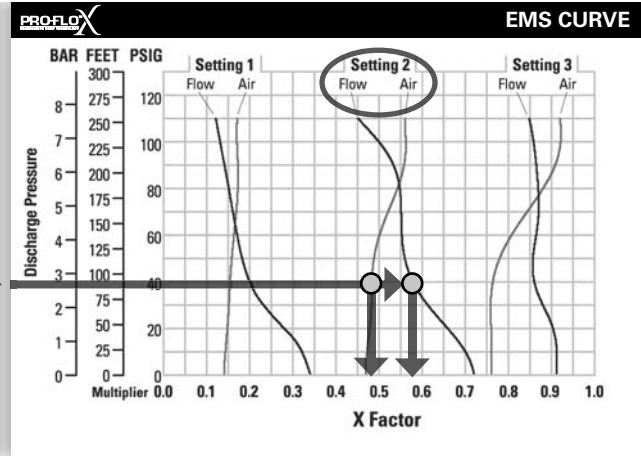

Figure 2
FIGURE 2 When the pressurized diaphragm, diaphragm A, reaches the limit of its discharge stroke, the air valve redirects pressurized air to the back side of diaphragm B. The pressurized air forces diaphragm B away from the center while pulling diaphragm A to the center. Diaphragm B is now on its suction stroke. Diaphragm B forces the inlet valve ball onto its seat due to the hydraulic forces developed in the liquid chamber and manifold of the pump. These same hydraulic forces lift the discharge valve ball off its seat, while the opposite discharge valve ball is forced onto its seat, forcing fluid to flow through the pump discharge. The movement of diaphragm A toward the center of the pump creates a vacuum within liquid chamber A. Atmospheric pressure forces fluid into the inlet manifold of the pump. The inlet valve ball is forced off its seat allowing the fluid being pumped to fill the liquid chamber.
Step 2: Determining flow and air X Factors. Locate your discharge pressure (40 psig) on the vertical axis of the EMS curve (Figure 2). Follow along the 2.8 bar (40 psig) horizontal line until intersecting both flow and air curves for your desired EMS setting (in this case, setting 2). Mark the points where the EMS curves intersect the horizontal discharge pressure line. After locating your EMS points on the EMS